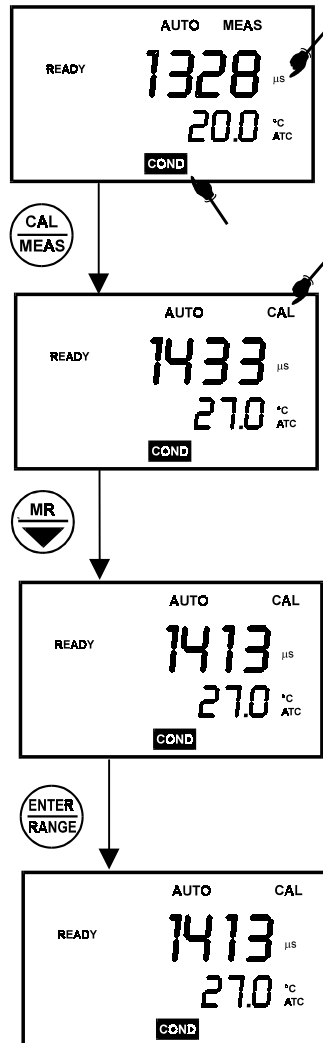

Figure 13: Conductivity calibration procedure
6. Wait for the measured conductivity value to stabilize. See Figure 13 for the conductivity calibration procedure.